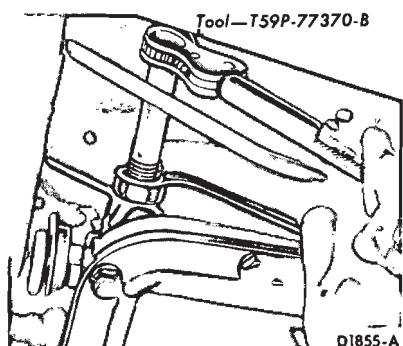

FIG. 19—Adjusting Low-Reverse Band
2. Install a new locknut on the adjusting screw with the tools shown in Fig. 19, tighten the adjusting screw until the tool handle clicks. The tool is a pre-set torque wrench which clicks and breaks when the torque on the adjusting screw reaches 10 ft-lbs.